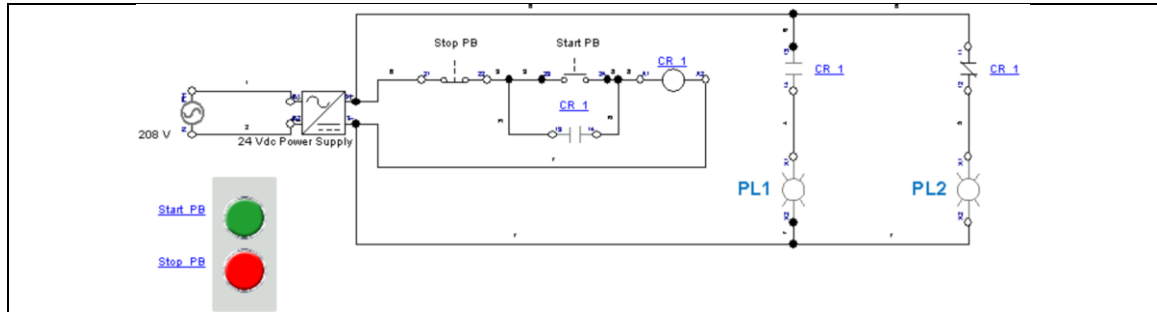

Figure 18. Relay in a start/stop circuit.
5. What should be the voltage measured across PL1 if the CR_1 coil is not energized in Figure 18?
6. What should be the voltage measured across PL2 if the CR_1 coil is not energized in Figure 18?
7. What should be the voltage measured across PL1 if the CR_1 coil is energized in Figure 18?
8. What should be the voltage measured across PL2 if the CR_1 coil is energized in Figure 18?